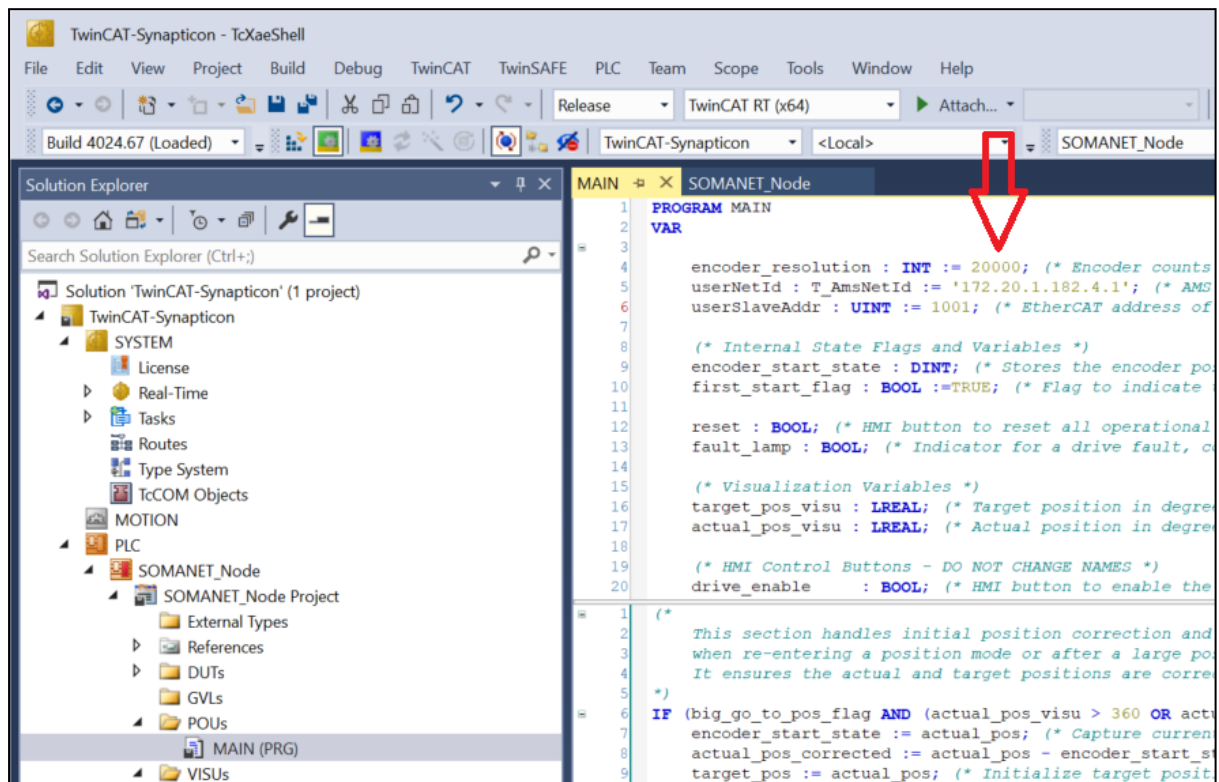

Figure 5.26 - Setting up encoder resolution in the main program
- a. The first place is in the main code. It is located in *TwinCAT - Synapticon* > *PLC* > *SOMANET_Node* > *MAIN (PRG)* as indicated in Figure 5.26. Change this number to your encoder resolution and save everything by pressing **CTRL+SHIFT+S**.